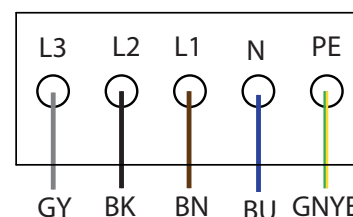

Figure 24: 5-pole connection
2. Connect the cables in accordance with the label on the PCB terminals (Figure 24 on page 21).